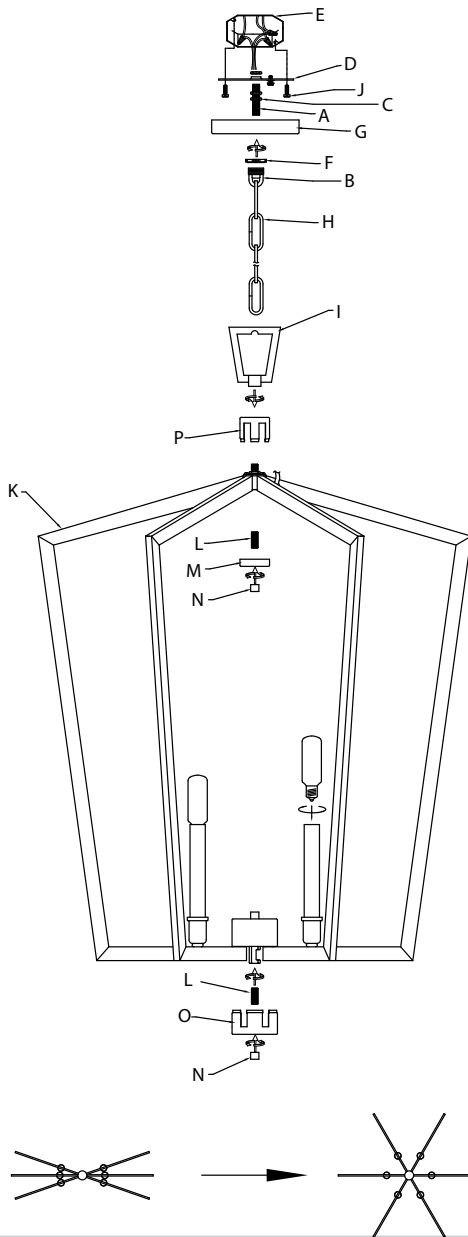

Fig.1
- Rotate the arms to the correct positions (Fig.1)
- Tournez les bras aux positions correctes (Fig.1)